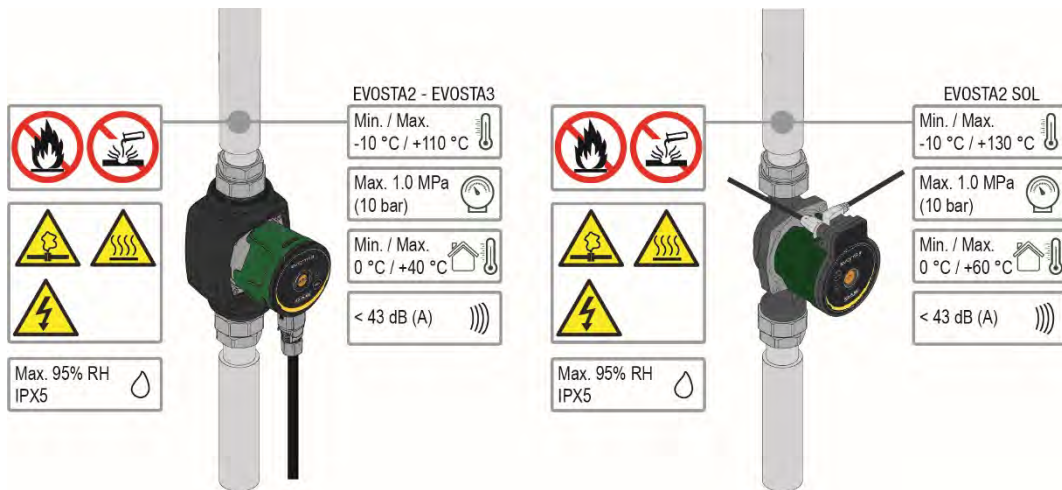

Figure 1: Pumped liquids, warnings and operating conditions
- The arrows on the pump housing indicate the flow direction through the pump. See fig. 1, pos. A.
1. Fit the two gaskets when you mount the pump in the pipe. See fig. 1, pos. B.
2. Install the pump with a horizontal motor shaft. See fig. 1, pos. C.